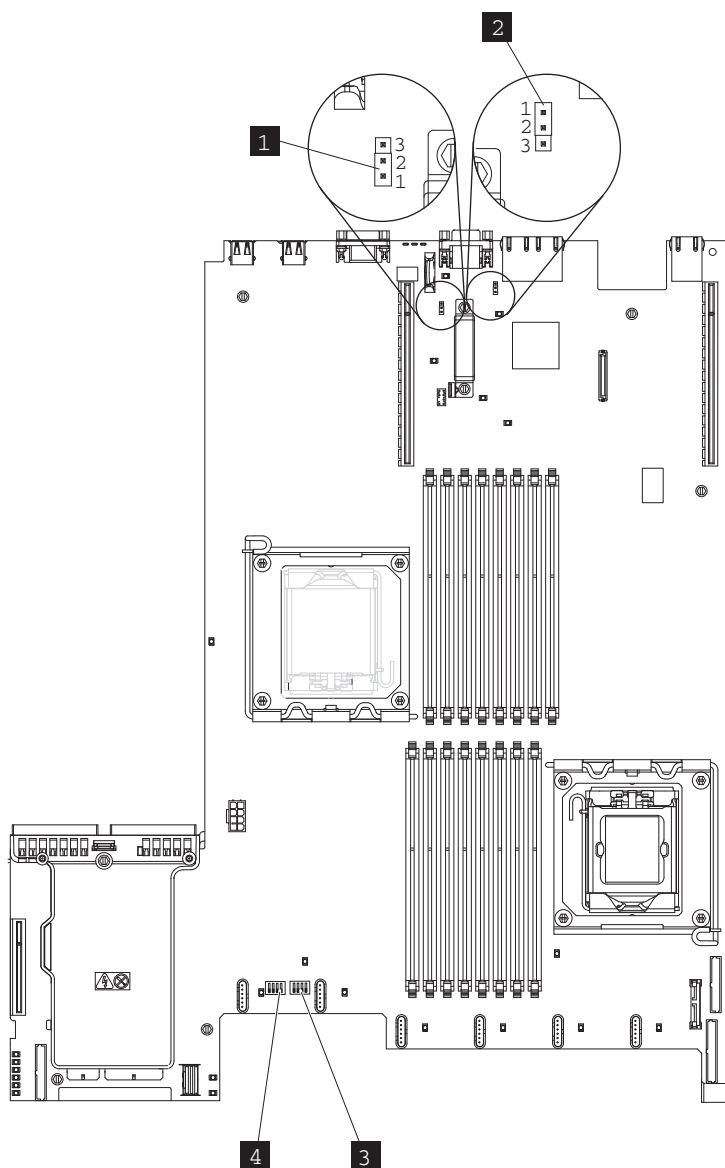

Figure 324. Setting jumpers on the system board
1. Unpackage the new system board and set its jumpers appropriately, as shown in Figure 324 on page 394.